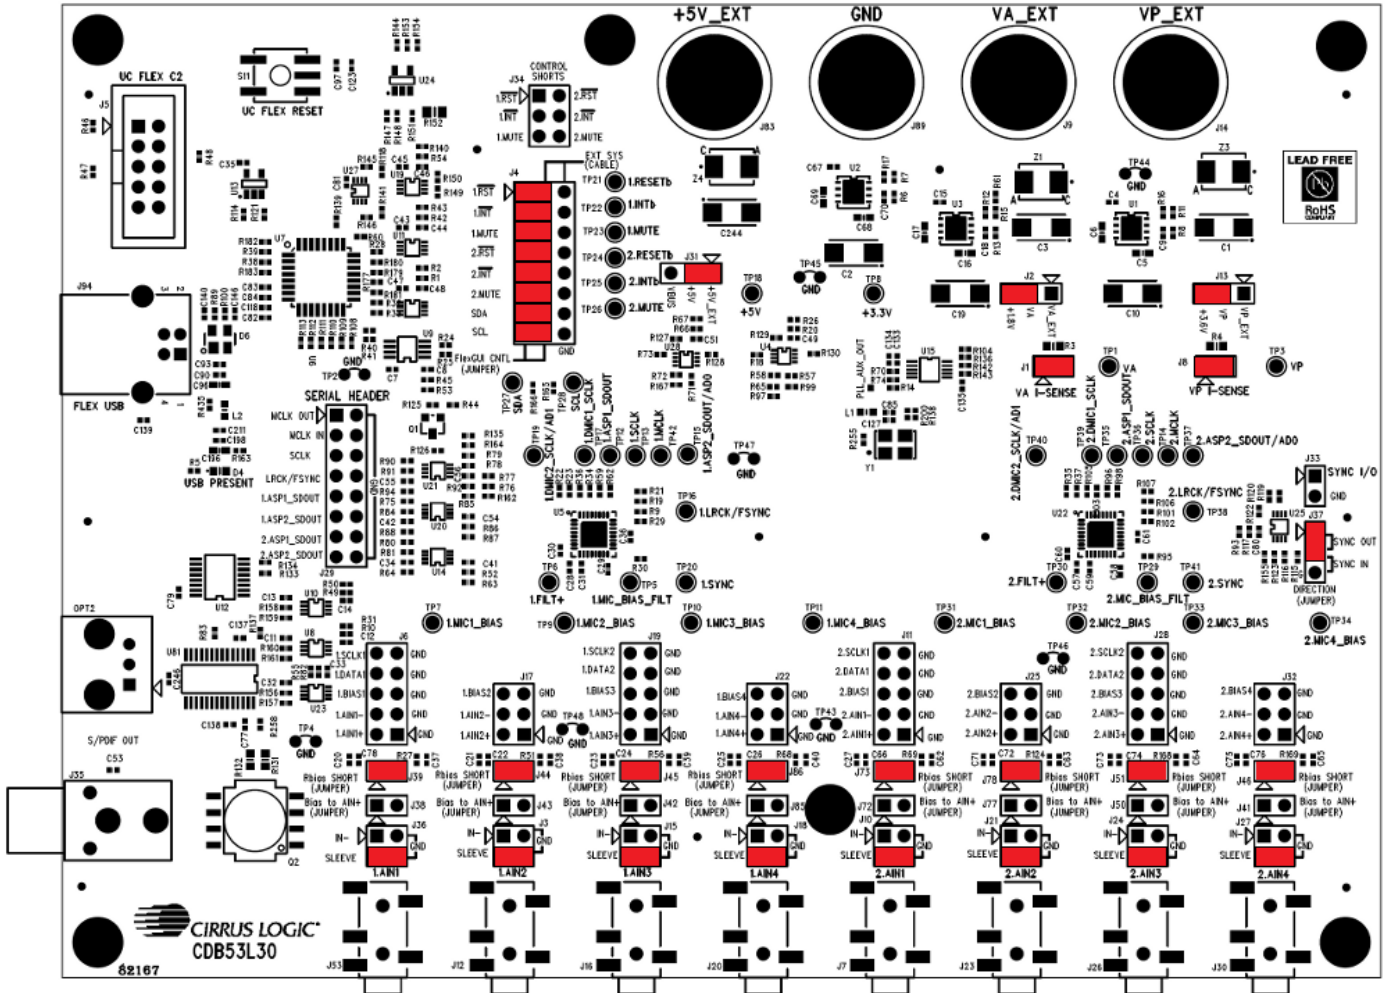

Figure 3-1. CDB53L30 Factory Default Jumper Settings
- 1** Return all jumpers to default factory settings. See Table 3-2 and Fig. 3-1.
All power and signal I/O connections are listed in Table 3-1. Jumper settings are described in Table 3-2. LED indicator states are described in Table 3-3. Factory default jumper settings are shown in Fig. 3-1.